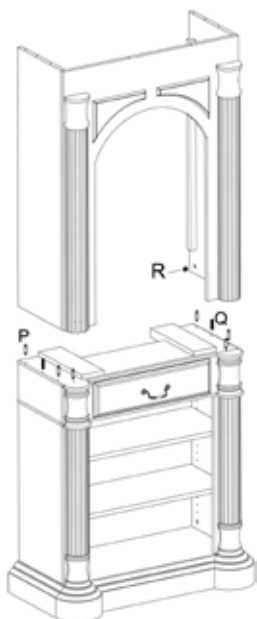
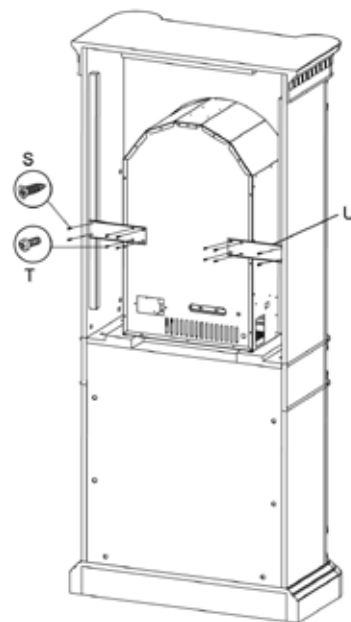

Figure 6
Figure 9
5. Place 2 WOOD DOWELS (Q) and screw 6 CAM DOWELS (P) into top of the DRAWER ASSEMBLY (I) as shown in Figure 6. Insert 6 CAM LOCKS (R) into the mating holes in the HEARTH MANTEL ASSEMBLY finished in Step 4 with the triangle arrow pointing towards the hole in the edge. Mate the HEARTH MANTEL ASSEMBLY finished in Step 4 with the WOOD DOWELS (Q) and CAM DOWELS (P) in BASE ASSEMBLY and twist CAM LOCKS (R) clockwise with a screwdriver to tighten HEARTH MANTEL ASSEMBLY to BASE ASSEMBLY.
6. Place the Fireplace into the Tower Mantel according to figure 6, then take out CONNECTOR PANEL (U) and SCREW (S) (T) from the attached package; assemble the Complete Unit and High Mantel with these stuff according to Figure 9.